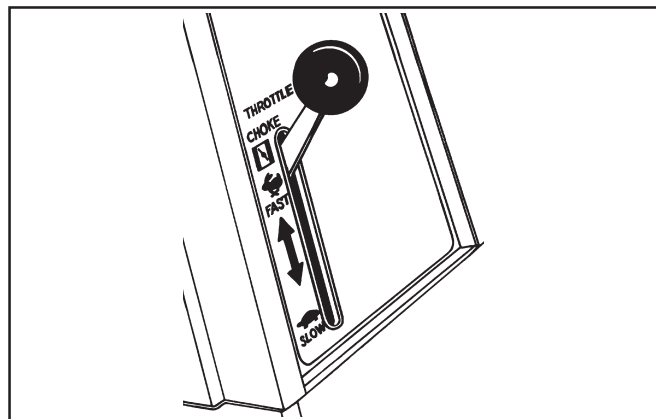

Figure 5. Throttle Position for Starting Engine.
1. **For a Cold Engine or a Warm Engine** – Place the throttle/choke control into the “**fast/choke on**” position. This will also place the choke into the “**on**” position. See Figure 5.